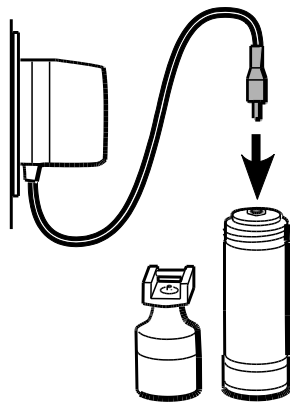

Figure 4
2. After initial cleaning and disinfection, connect the handle(s) to the charger. See Figure 4.